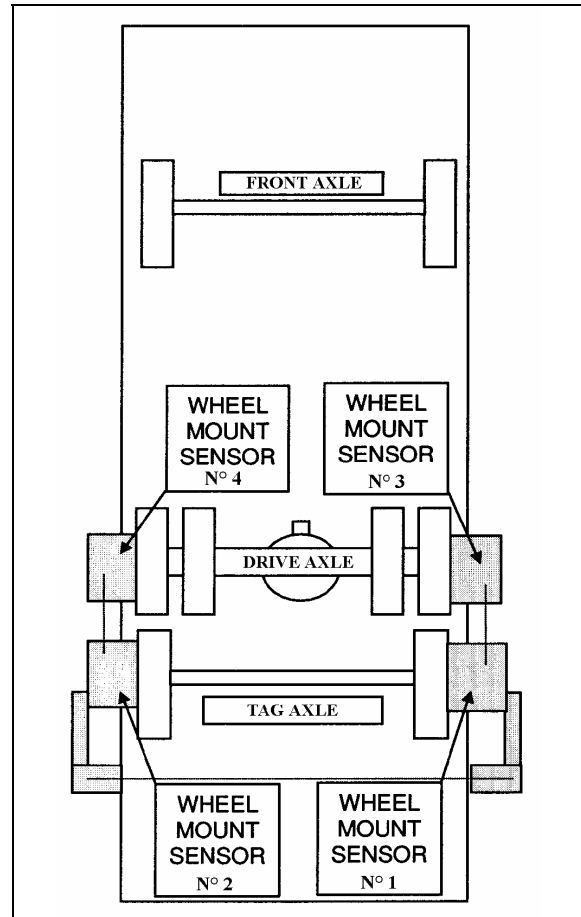

FIGURE 8: TAG AXLE ALIGNMENT 11026
- Remove and reinstall all wheel mount sensors on the drive and tag axles (fig. 8);